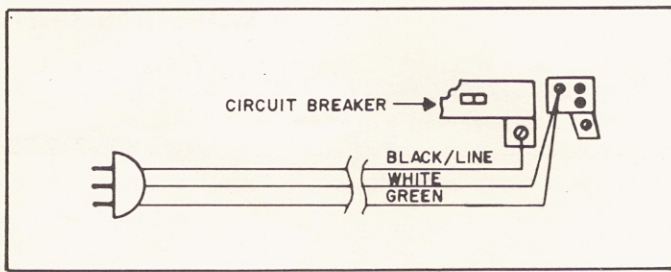

Fig. 1—Test Cable Connections
b. Cut back the cable jacket at both ends and expose about $\frac{1}{8}$ inch of the conductors; tin the conductor ends and then solder the three wires on one cable end to the pins of the plug as shown in Fig. 1.
- 3.2** Open the SPS cabinet by loosening the two locking bolts at the bottom and sliding the cover down; a tilting of the cover sideways will permit to remove it entirely. Then remove the cover from the circuit breaker box and connect the three wires of the other end of the test cable as shown in Fig. 1. Make sure the circuit breaker is in the OFF position.